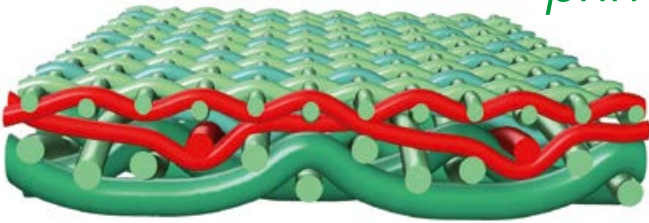

Fig. 6: Primobond with two binder yarns
**binder yarns** to pull the two fabrics together. At any point in time only one of these yarns is at the surface of the fabric and in contact with the paper sheet. The other yarn is fulfilling the less obvious but nonetheless critical function of holding the two fabrics together (Fig. 6). Unfortunately the use of two binder yarns can reduce dewatering and also could create an air gap between the paper and machine side layers.